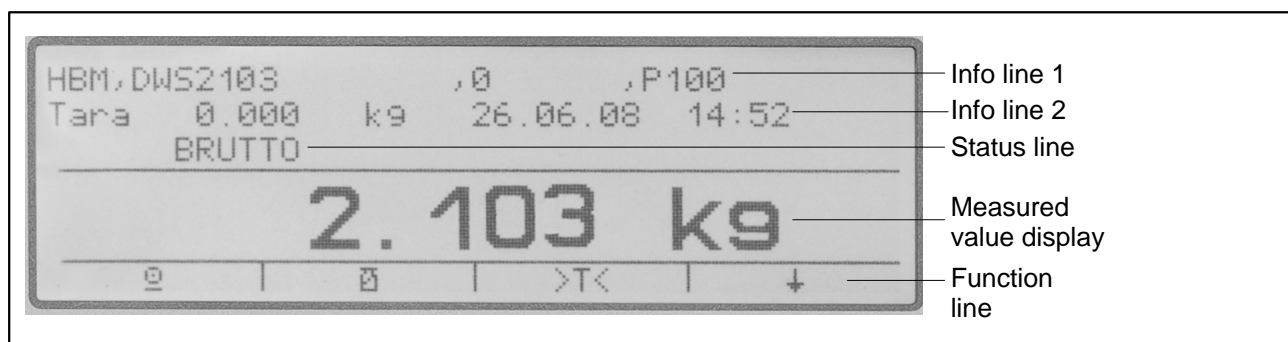

Fig. 6.2: Display
- Keys F1...F4 = The function of the keys is displayed by the text or the symbols in the function line (Fig. 6.2) in the display